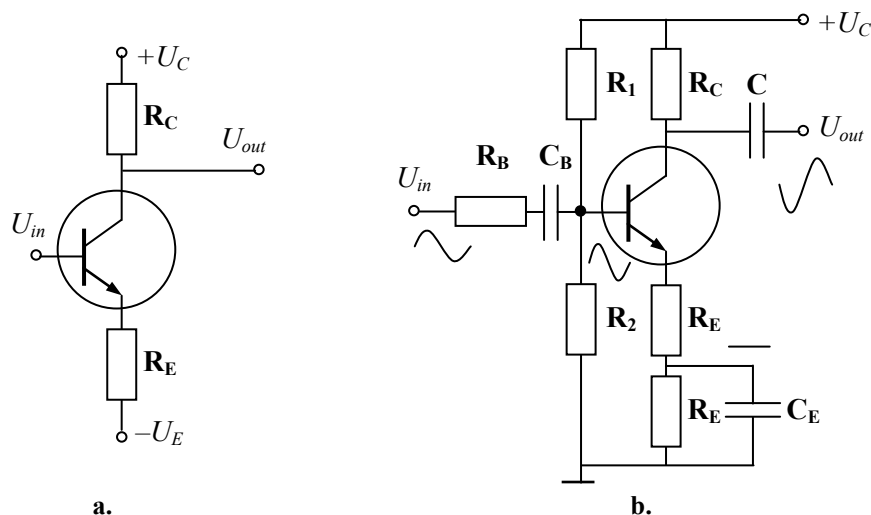

Fig. 2.12
Historically, the first attempt to stabilize the  $Q$  point was to introduce an emitter resistor  $R_E$ . There are two symmetrical supply sources in the circuit of Fig. 2.12,a – the positive source  $+U_C$  and the negative source  $-U_E$ . It is known as a *balanced supply* with two equal *rails*, positive and negative. While  $U_{in} = 0$ , the output  $U_{out} = 0$  too. Any quantity  $\Delta U_{in}$  leads to the  $\Delta U_E$  appearance, consequently
A feedback *voltage divider*  $R_E$  shown in Fig. 2.12,b is usually called a *bleeder*. Such a feedback amplifier was invented in 1927 by H.S. Black. When the gain increases, so does the output quantity too. This output quantity flows through the emitter resistor, which diminishes an input quantity. In other words, the output influences the input. It is called an *emitter current feedback*, and refers to the output controlling of the input, at least partly. This *staircase divider* is a part of the loop that stabilizes the voltage gain. The voltage across the feedback resistor opposes the input voltage. This negative feedback reduces the voltage gain, but improves the gain stability and distortion. The resistor  $R_1$  is another attempt to stabilize the  $Q$  point using a *negative collector feedback*. When the current gain increases, the collector current reduces the collector voltage, which means a lower base current and, therefore, a lower collector current.
**Two-stage dc amplifier.** The capacitor between the stages shown before in Fig. 2.12 decreases the signal and shifts its phase. It is the main reason of the frequency limiting in the ac amplifiers. Moreover, the capacitor needs an additional place in the amplifier design. As there are many applications without ac signals, the dc amplifier manages without the capacitor.